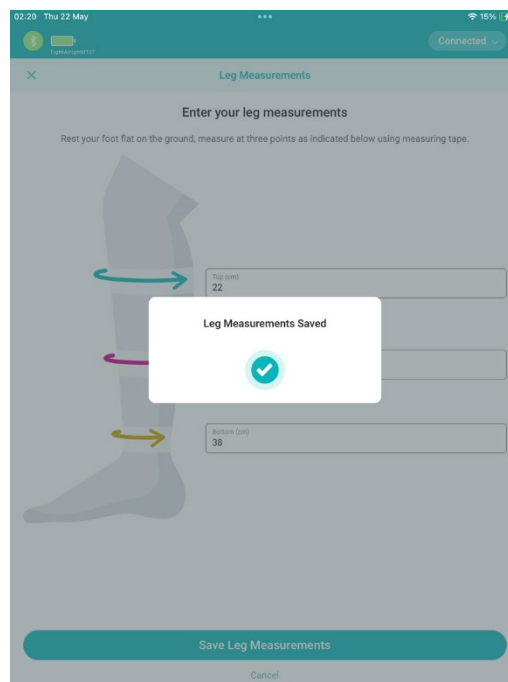

Figure 11. Mobile app screen confirming successful saving of leg measurements.
- When you have saved the leg measurements a confirmation screen will be shown (Figure 11).